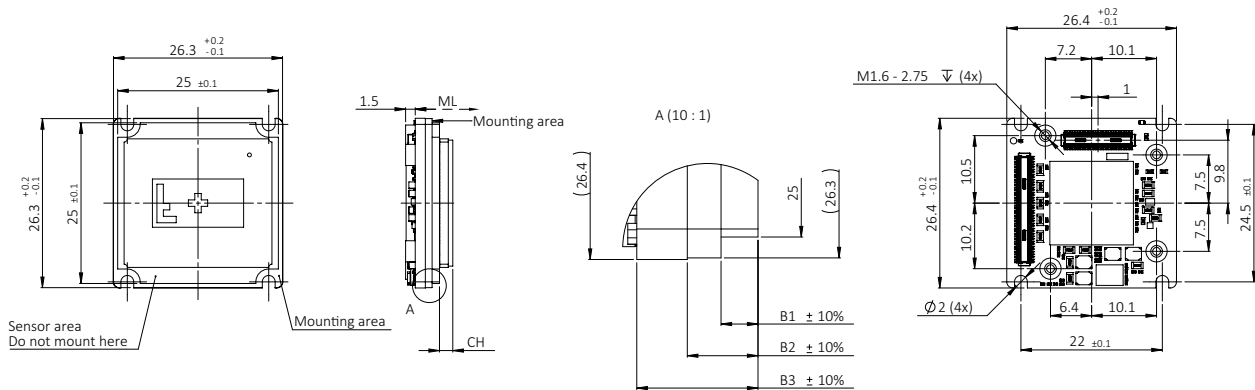

Figure 69: Bare Board (Alvium Flex) dimensions
Dimensions that are common between different models are shown in Figure 69. Model specific dimensions are listed in Table 84. **Mechanical length (ML)** defines the mechanical distance from the mounting area to the lens mount front flange, without optical filter. **Components height (CH)** relates to the electronic components with maximum height, in some cases the sensor.